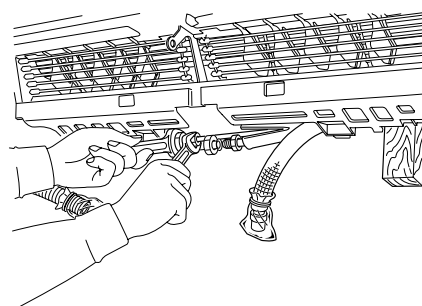

Fig. 37
- (4) Disconnect the flare nut for narrow tube by 2 wrenches. (Fig.37)